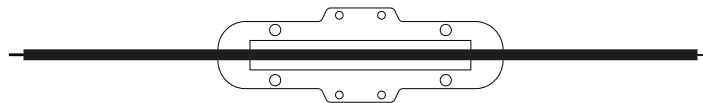

FIGURE 12
- c. Place the new seat on the top of the valve body, centering it on the valve per figure 12.